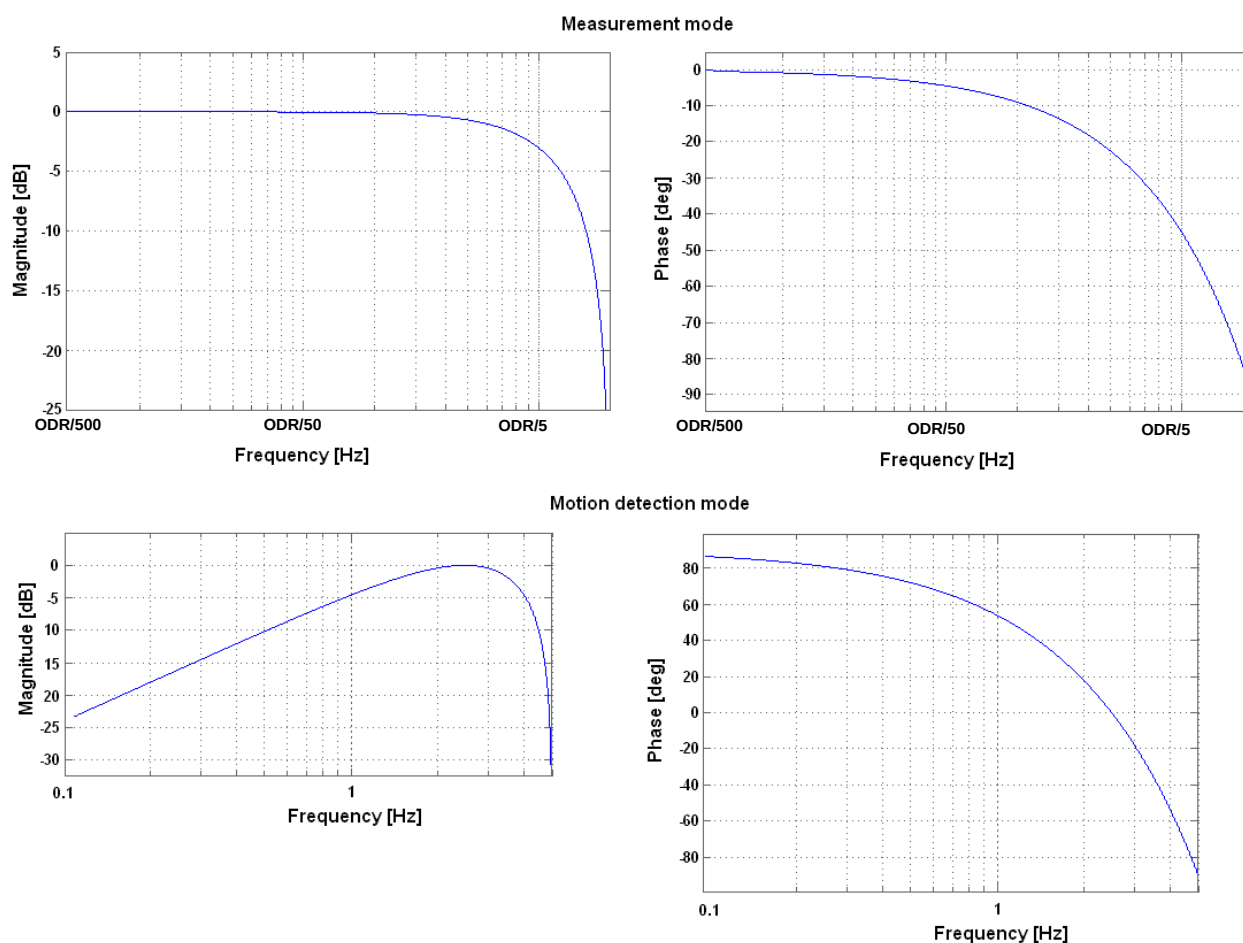

Figure 3. Typical Frequency responses of CMA3000-D01.
9) Frequency responses with 1st order roll off according to Figure 3.